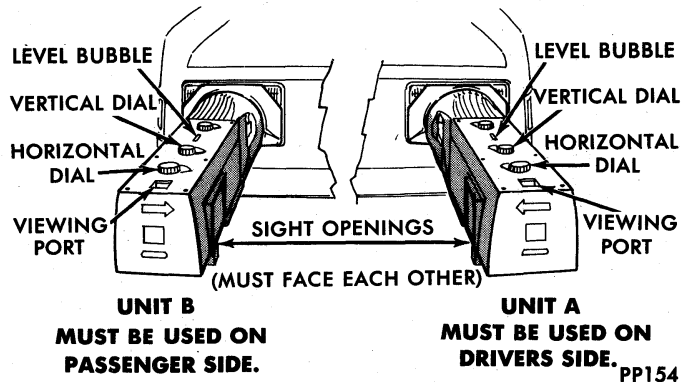

Fig. 8—Head Lamp Aimers in Position
(3) Position aimers on headlamps by pushing piston handle forward, engaging rubber suction cup. Immediately pull back piston handle until it locks in place (Fig. 8).